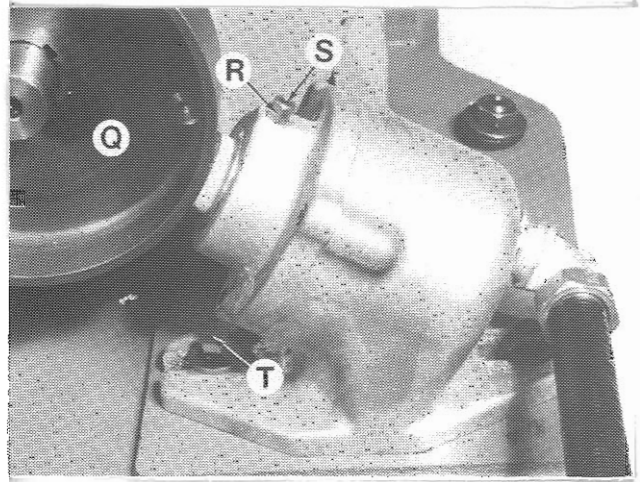

Figure 2.10 - Brake Mounting
6. Loosen screws "T", Figure 2.10 and move brake assembly away from brake drum.
Brake drum "Q", Figure 2.10, is located directly on the drive motor shaft. The brake insert is spring actuated and solenoid released. The spring automatically compensates for brake wear. DO NOT ALLOW CORK INSERT TO BECOME DRY Oil daily with a few drops of Mobil Velocite Oil No. 6 or equivalent. Allowing cork to become dry will reduce belt life excessively.
Loosen two bolts "T", Figure 2.10, and remove brake for easy access to cork. Loosen locknut "R" and keyway guide screw "S". Turn adjusting screw "S" counterclockwise until cork housing is free from brake. Push cork out by means of threaded hole in bottom of housing. Insert new cork, making certain it bottoms in housing. Replace housing in brake. Bottom screw "S", Figure 2.10, in keyway of brake housing. Back screw "S" out 1/4 turn and relock nut "R". When brake is securely bolted in place, follow instructions under "Brake Adjustment".